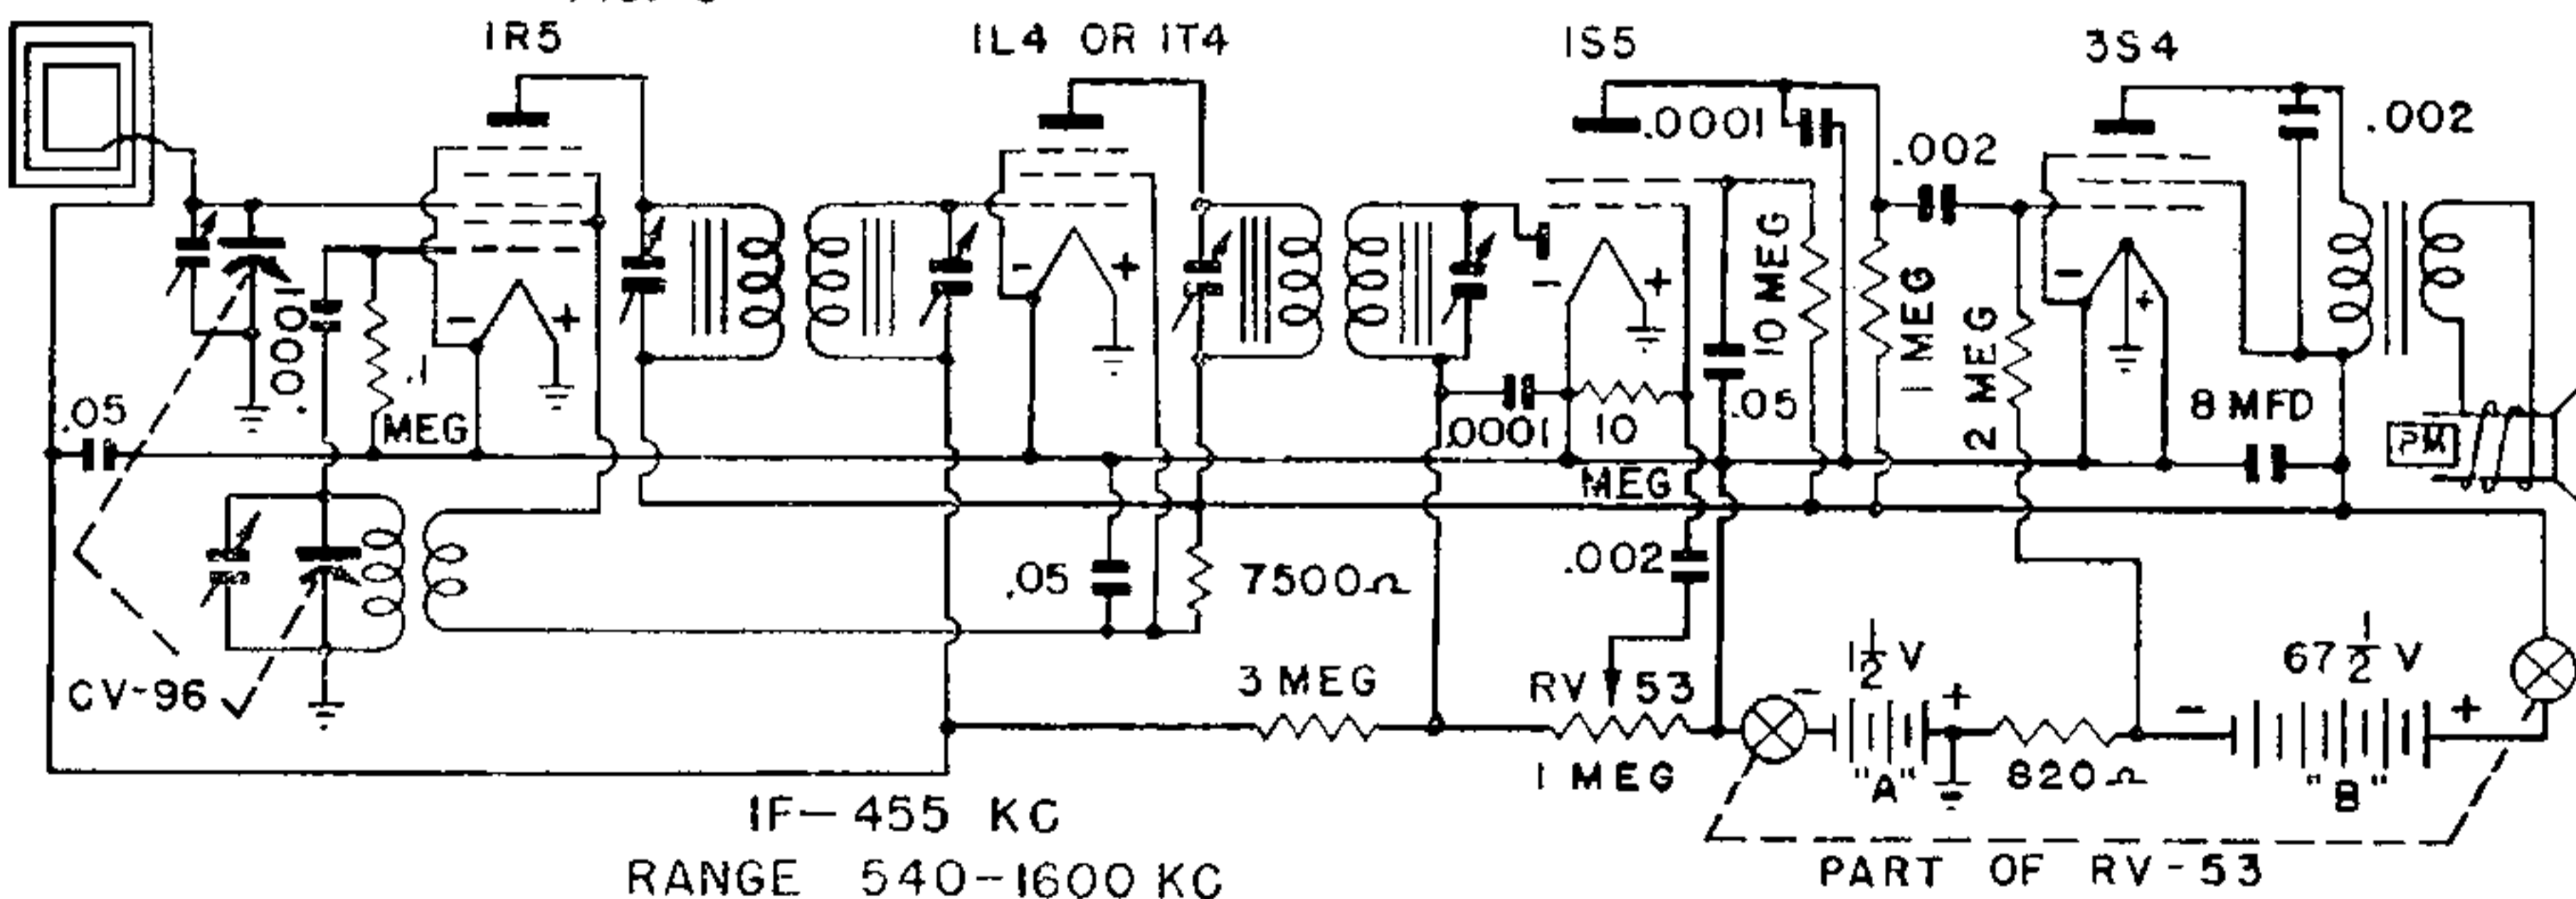

FIG. 3
**FILM REQUIRED FOR CAMERA:****AGFA A8 OR EASTMAN 127 OR EQUIVALENT.****TO LOAD AND UNLOAD CAMERA (See Figure 3)**